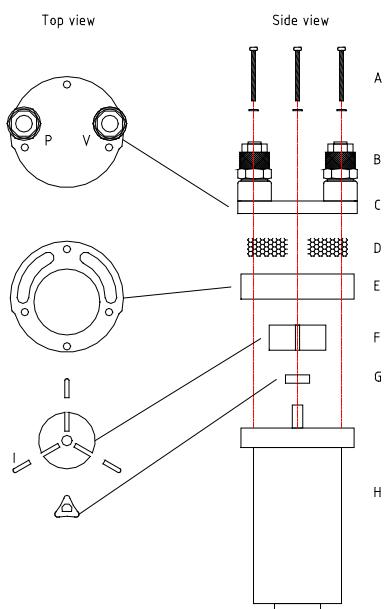

Fig. 4.6a
When the capacity of the air pump decreases, the filters inside the pump need to be cleaned. Remove the pump from the electronic compartment. Loosen the four M4 bolts from the pump head and then remove the 2 filters(D) from the pump head. Clean the filters with tap water and let them dry. **Be aware!**, reassemble the pump exactly as seen in fig 4.6a.